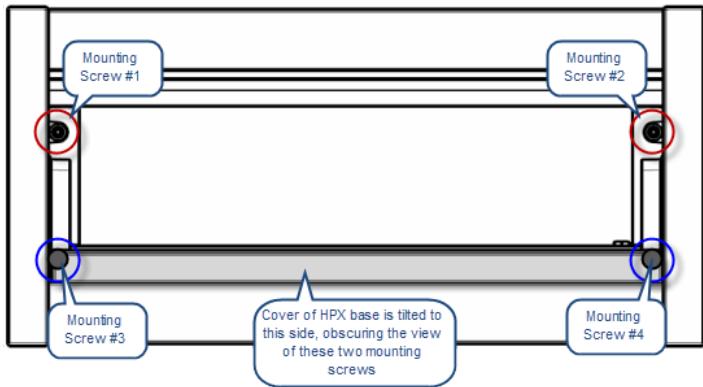
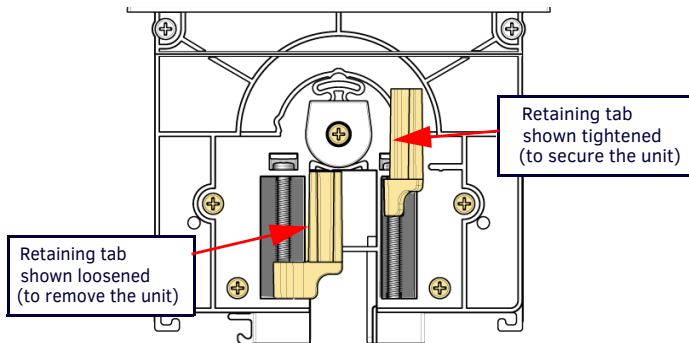

FIG. 6 HPX BASE ASSEMBLY (SHOWN MOUNTED) - MOUNTING SCREWS LOCATIONS
FIG. 7 HPX BASE ASSEMBLY (SHOWN MOUNTED) - MOUNTING SCREWS LOCATIONS
- Tighten the four mounting screws (FIG. 6) located inside and at each end of the HPX base assembly, to rotate the retaining tabs (FIG. 7) into locking position under the mounting surface.
- Loosen the four mounting screws located inside and at each end of the HPX base assembly (FIG. 6), in order to rotate the retaining tabs from under the mounting surface.
FIG. 7 provides a cutaway view of the End Cap, showing the retaining tabs highlighted in both the loose position and the tightened (secure) position.